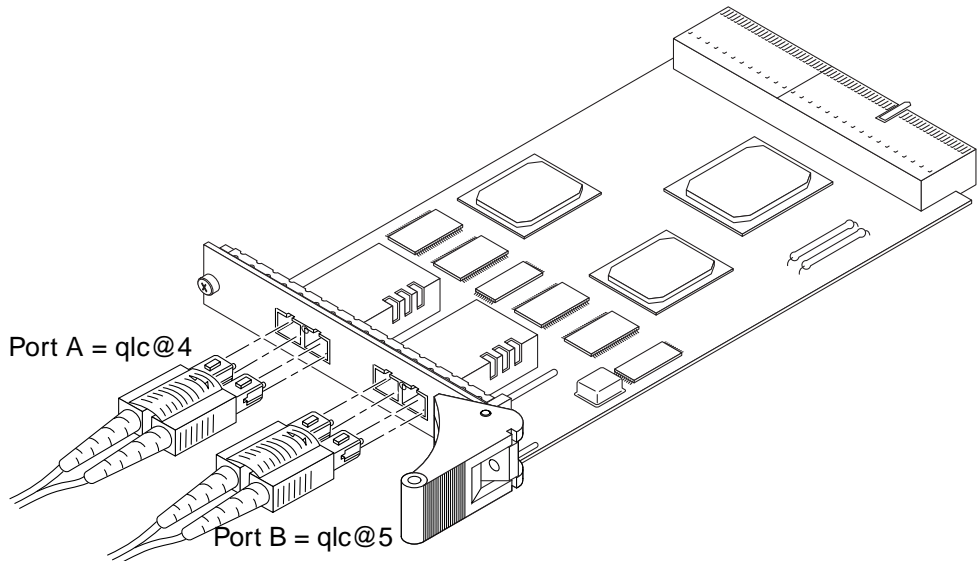

FIGURE 2-5 Connecting a Fiber Optic Cable to an OT Connector
5. **Push the fiber optic cable connector into the OT connector until you hear a click** (FIGURE 2-5).
Caution – Fiber optic cables have keyed connectors; they can only be inserted into OT connectors as shown in FIGURE 2-5.